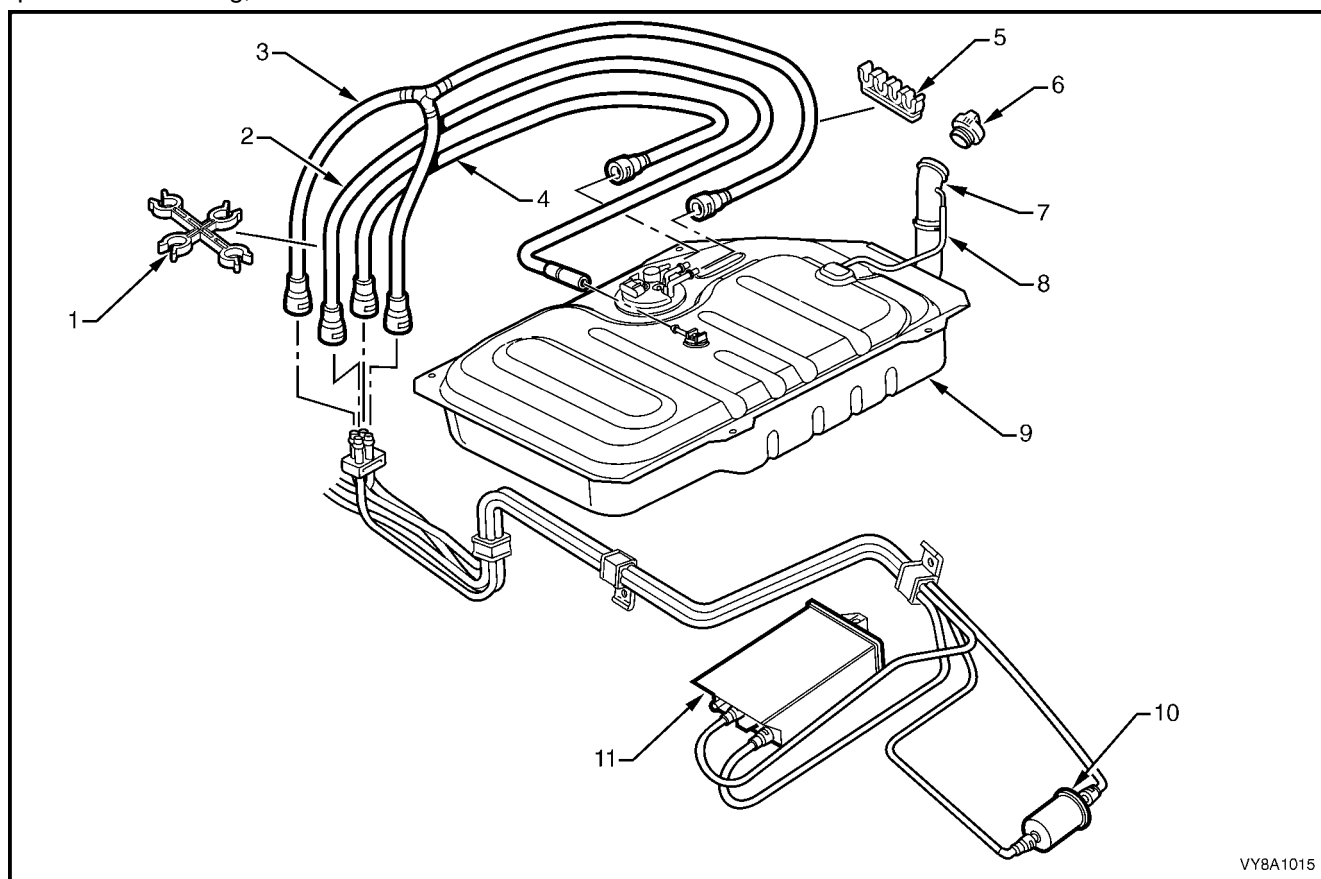

Figure 8A1–56
SERVICE NOTE: Refer to Figure 8A1–55, for GEN III V8 engines use special tool 7371 to remove the fuel feed/return to engine hose (1) quick-connect fitting and special tool AU533 to remove the fuel vapour hose (2) quick-connect fitting, refer to **2.10 QUICK-CONNECT FITTINGS**.